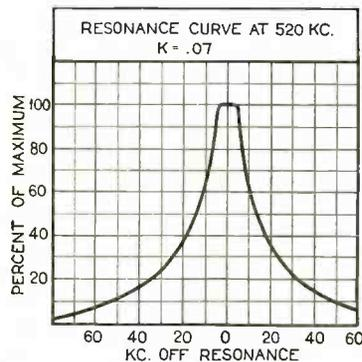
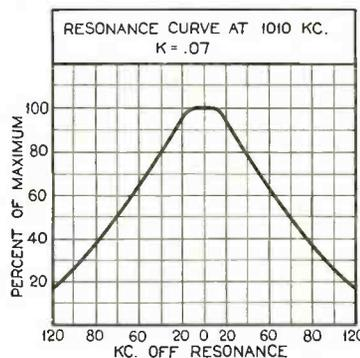
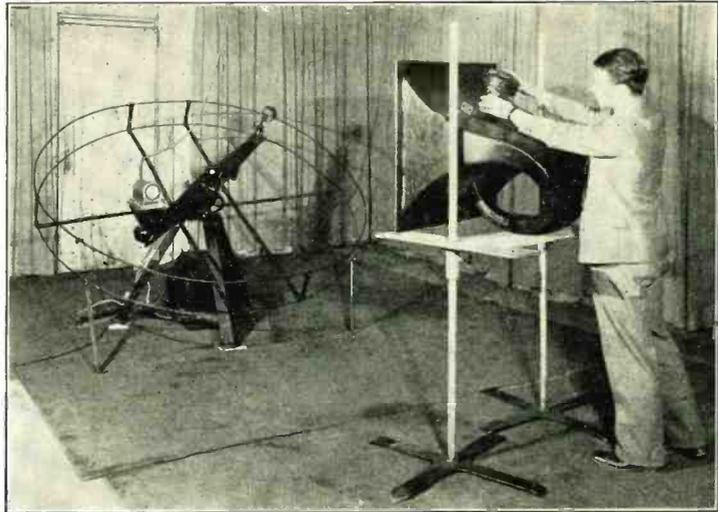

FIG. 7
FIG. 8
Fig. 6. Machine for rotating condenser-transmitter to make indoor loud-speaker measurements.
of these values in equations (1) and (2), results in a coefficient of coupling of approximately .02. This coefficient of coupling results in a band selection of approximately 24 kc. at 1200 kc. Using a coupling coefficient .07, this will be a band of approximately 31 kc. in width at a frequency of 550 kc. and a width of approximately 72 kc. at 1200 kc. Fig. 7 shows a test curve taken at 520 kc. and Fig. 8 the same transformer at 1200 kc. It is noted that the band is approximately half the calculated width; this is due to the fact that the capacity coupling between the two coils, which had been neglected in the calculation, acts to reduce the effective coupling between the circuits. Fig. 9 shows a family of curves for various values of coupling obtained at a frequency of 925 kc.
One method of compensating for the effect of standing waves, and of thereby obtaining indoors a curve that is representative of the performance of the loudspeaker, is to average the measurements at several positions or within a region rather than at one position. This is accomplished in these Laboratories by a machine pictured in Fig. 6. This machine rotates the condenser transmitter in a circle which is nearly six feet in diameter and whose plane is inclined at an angle with the horizontal. Fig. 7 shows a curve for the piston-diaphragm loudspeaker measured under the same conditions as the curve in
Fig. 5, but with the rotating condenser transmitter. The center of the circle was located at the same point as the condenser transmitter for Fig. 5. A comparison of the solid curve in Fig. 7 with the dotted curve, obtained outdoors for the same loudspeaker, shows the extent to which rotating the transmitter in this manner obviates the effect of wall reflections.
The uniformly greater response at low frequencies of the indoor curve in Fig. 7 can be attributed to the fact that the sound absorbing ability of the measuring room varies with frequency. Indoors the energy reaching the condenser-transmitter position directly from the loudspeaker is supplemented by energy reflected to the same position from the walls of the measuring room. Variations with frequency in the reflecting or absorbing ability of the walls of the room will, therefore, cause variations in the magnitude of the response measurements. From the difference between the two curves in Fig. 7 it is possible to calculate the ratio of the outdoor to indoor energy densities at different frequencies at the transmitter position and to obtain the solid curve shown in Fig. 8. The dotted curve is an average curve showing the trend. A comparison of this dotted curve, with the dot-dash curve of the absorbing ability of one-half inch of hair felt, shows an interesting correlation in the trends of the two curves. The difference in magnitude of the two curves can be accounted for by the
Fig. 7. Response - frequency characteristic of 3½-inch piston-diaphragm loud-speaker. Measured in highly absorbing room and averaged in small region 12 feet from diaphragm.
Fig. 8. Absorption - frequency characteristic of felt-lined room with respect to a region relatively near its center and the sound source. Calculated from data of Fig. 7.